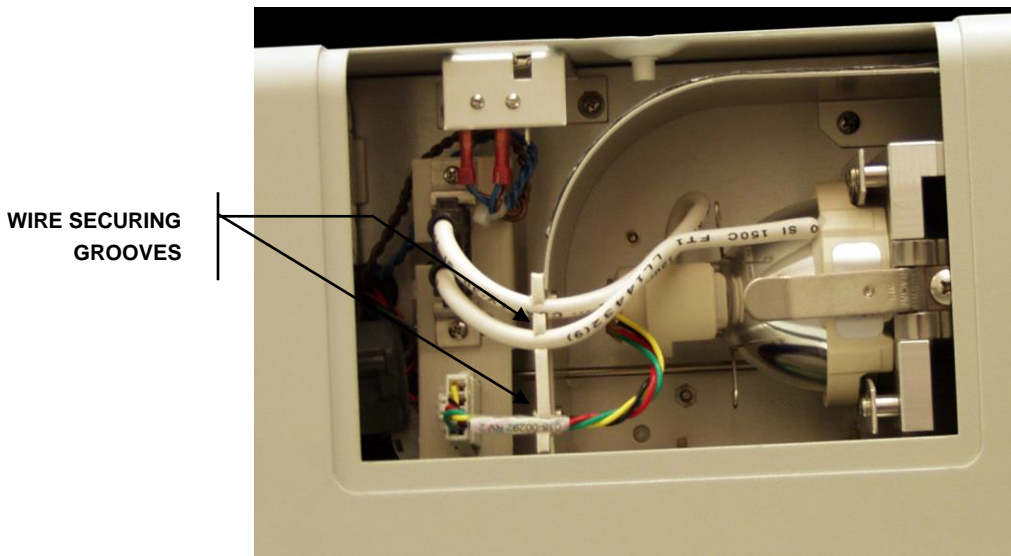

Figure 8 Lamp Wire Orientation
5.1.9 Secure the Intelli-Lamp and power wires into the grooves of the lamp housing. Reference Figure 8.